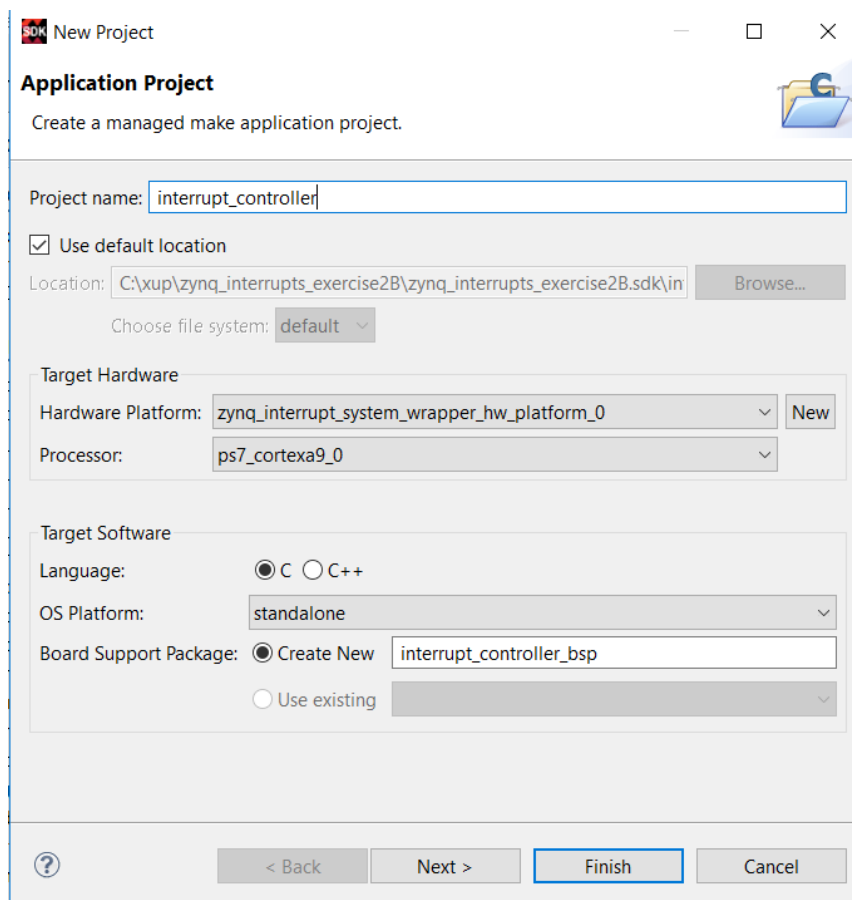

Figure 2.20: New Application Project dialogue
- The *New Project* dialogue window will open. Enter **interrupt_counter** in the *Project name* field, as shown in Figure 2.20, keeping all other options with the default settings. Click **Next**.